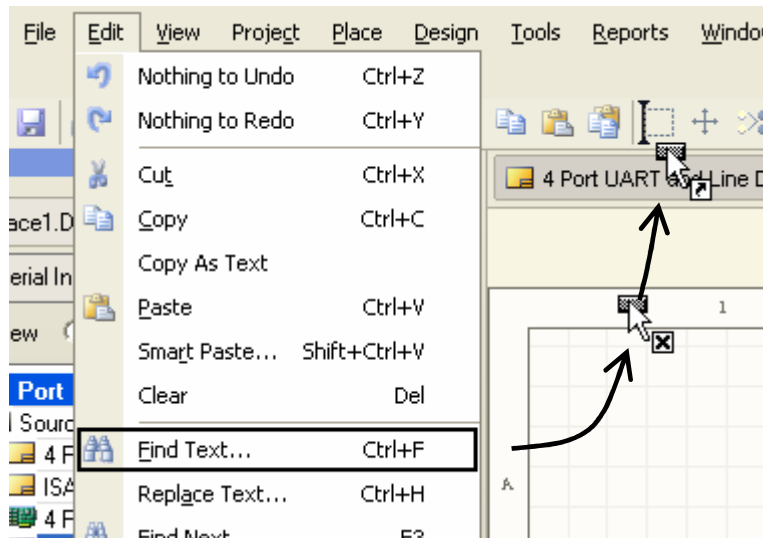

Figure 3. Copying a command from a menu to a toolbar
4. Holding the CTRL key, click and hold on the **Find Text** command and drag it up to the main toolbar, dropping it before the **Cut** button, as shown in Figure 3.